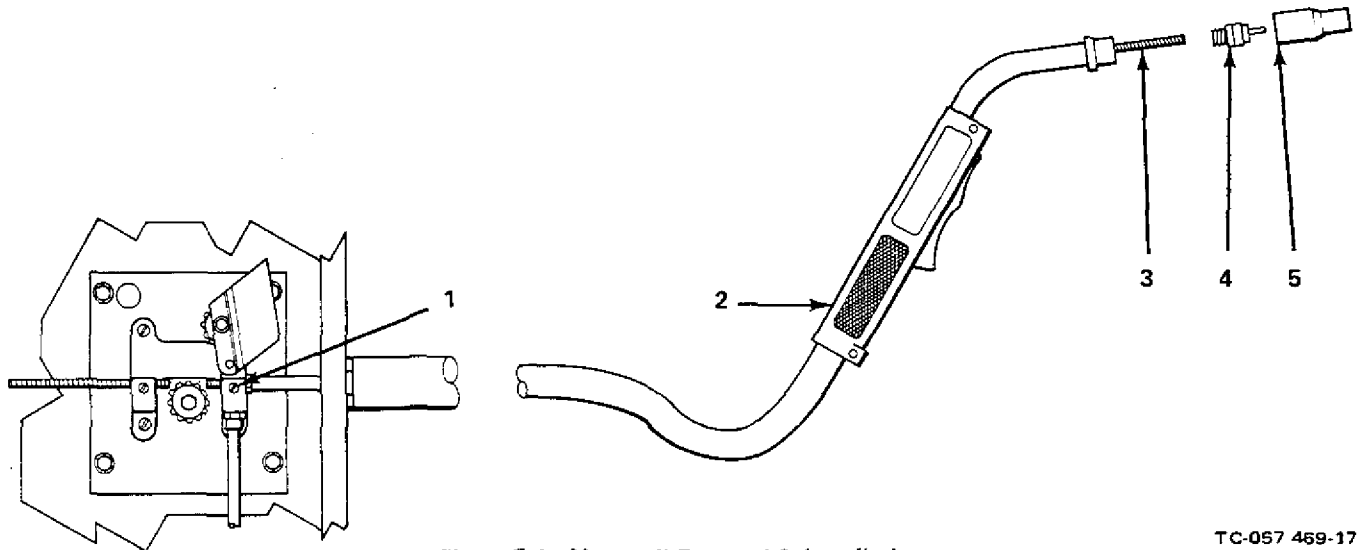

Figure 5-1. Monocoil Removal & Installation
#### A. Removal of Monocoil (Figure 5-1)
2. Loosen set screw (item 2, Figure 5-1) in the gun handle.
3. Pull off nozzle (5).
4. Remove gun connector (4) by rotating it counterclockwise.
5. By coiling the gun cable, expose the monocoil liner (3) out of the end of the gun.
6. Loosen securing screw (1) on drive assembly.
7. Grip the monocoil liner (3) with a pliers.
8. Straighten out the gun cable and apply a firm steady pull on the liner (3) while shaking the gun cable vigorously.
#### C. Inserting Monocoil Assembly (Figure 5-1)